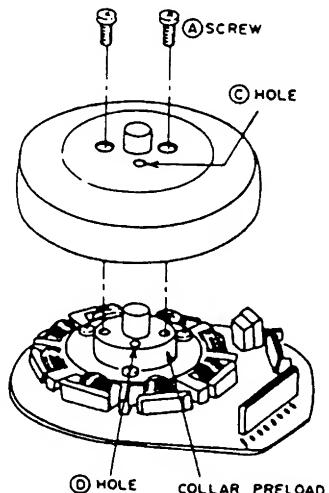

Fig. 3-24
- 1) Remove the two **Ⓐ** screws then pull up the PRE AMP PCB as shown in Fig. 3-24.
- 1) Disconnect the connectors P301, P302, P303, on the MAIN (A) PCB and P1 on the A/C HEAD PCB.
- 2) Remove the three **Ⓒ** screws from the MECHA. FRAME as shown in Fig. 3-24.